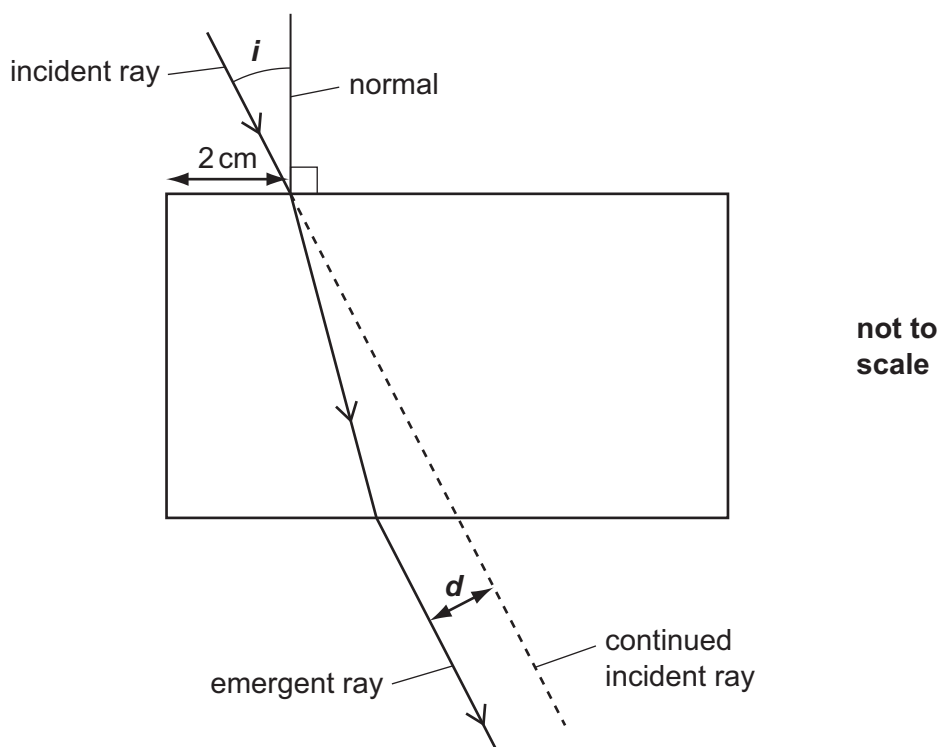

Fig. 3.2
- Remove the block and construct a normal, 2 cm from the end of one of the long sides as shown in Fig. 3.2. Using a protractor, draw and label lines to represent incident rays with angles of incidence i of 20° , 40° , 60° and 80° .
- Remove the block and draw a line to represent the emergent ray. Then continue the incident ray as shown by the dotted line in Fig. 3.2. Now measure the displacement d of the incident ray as shown in Fig. 3.2. Record the value of d in mm in Table 3.1.